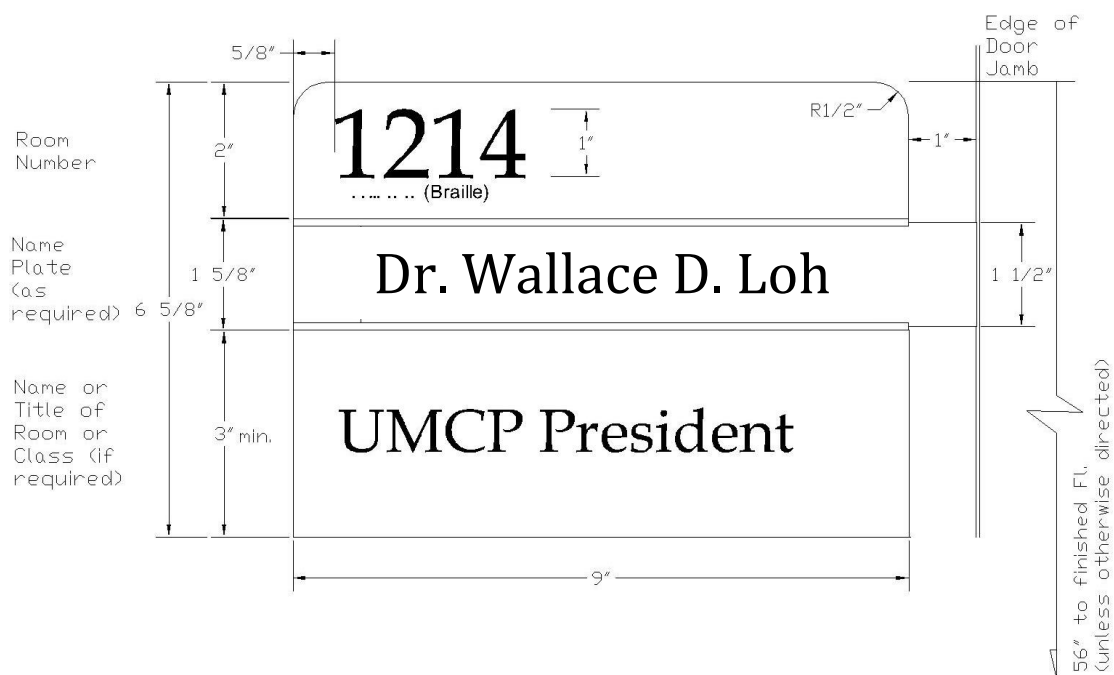

Figure 4 (for non-permanent rooms with removable nameplate)
- All characters shall be uppercase. (See Figure 4)
- Characters shall be conventional in form. Sizes of plates can be 4 5/8" x 9" or 3" x 9". (see Figure 4)